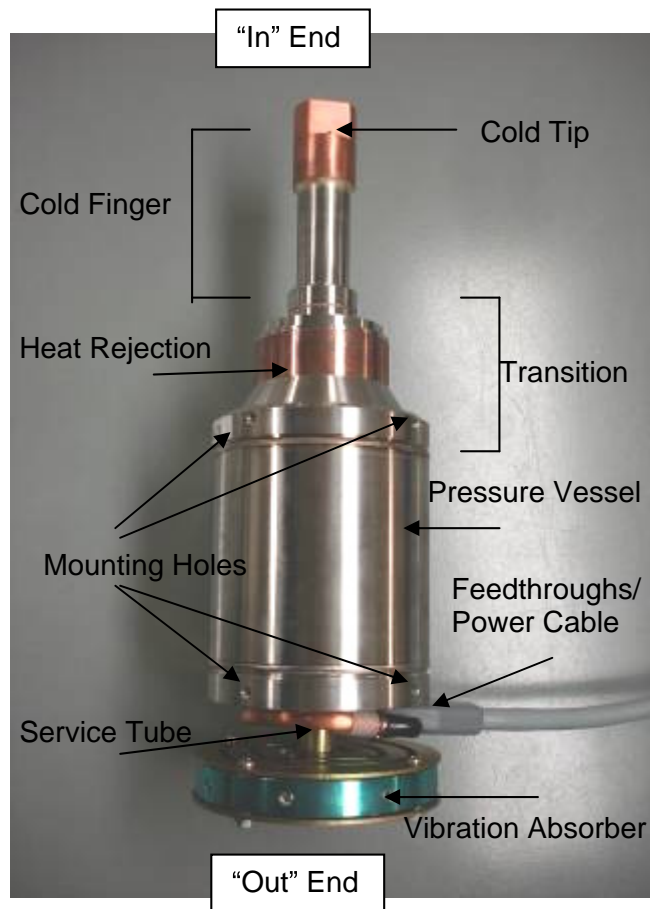

Figure 2: CryoTel GT Cryocooler
Although the CryoTel GT is mechanically robust, it can be damaged if not handled properly when in operation or when removing it from its packaging. The handling and operational **Dos** and **Don'ts** are listed below. Refer to the diagram of the CryoTel GT in Figure 2.
9. Apply clamping pressure to the pressure vessel (labeled in Figure 2).
When unpacking or handling, only hold the cryocooler by the pressure vessel or the transition (see Figure 2). The CryoTel GT may sit horizontally on a level bench top or table, but the cooler must be supported to prohibit rolling. The cold finger must be protected from any contact as well.
The cold finger of the CryoTel GT operates best in an insulated vacuum. The vacuum eliminates possible loading of the cold finger from convection or condensation of elements in the atmosphere such as water vapor and nitrogen. The vacuum is created by a customer provided vacuum Dewar or cryostat. As noted above, a flange can connect the cryostat and the stainless steel vacuum flange with an o-ring seal or welded attachment (Fig 2).